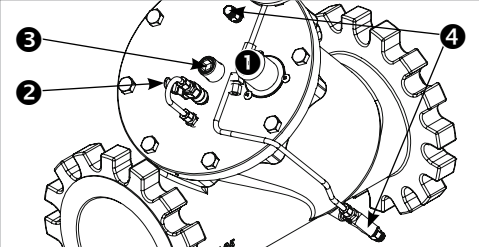

Figure 2
After installation and air venting, the desired  $\Delta p_{Circuit}$  is set by adjusting the setting ❶ (figure 2) under the cap on top of the valve. Use a 13 mm (1/2") Allen key and NOTE: ADJUSTMENT SHOULD BE DONE SLOWLY, APPROXIMATELY ONE TURN EVERY 10 SEC. Increasing the  $\Delta p_{Circuit}$  by turning clockwise and decreasing by turning counter-clockwise.  $\Delta p_{Circuit}$  setting ranges from 25-170 kPaD and for the below settings, the approximate  $\Delta p_{Circuit}$  will be:
1. Turn the adjustment bolt under the cap ① (figure 2) clockwise to fully open the valve (max. 12.5 Nm).
2. Turn off the ball valve ② (figure 2) by positioning the handle across the pipe and wait for at least 1 minute.
3. Close the on/off bolt ③ (figure 2) all the way by turning clockwise with a flat screwdriver on DN65/80 (2 1/2") or a 13 mm (1/2") Allen key on DN80/100 (3/4") and DN125/150 (5/6").
Measure the  $\Delta p_{\text{circuit}}$  on the p/t plugs ④ (figure 2) while turning the adjustment ①. WAIT UNTIL THE VALVE STABILIZES ITSELF.